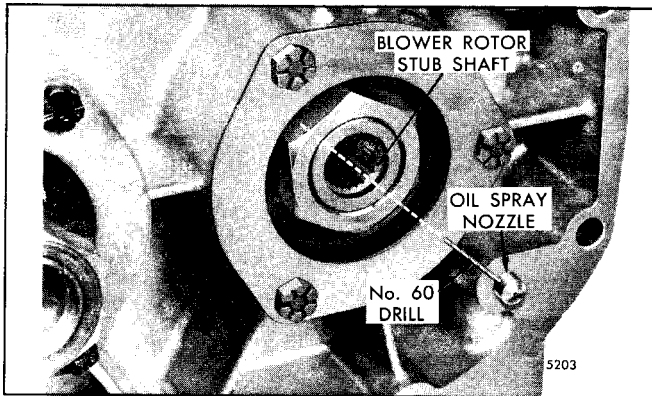

Fig. 11 - Positioning Blower Spray Nozzle (Former)
1. Position the spray nozzle so that when the shank end of a No. 60 drill is inserted in the hole in the side of the nozzle a sighted line along the drill will pass within 1/8" of the center of the rotor stub shaft (Fig. 11).
- e. Temporarily insert four (4) 3/8"—16 x 2-1/2" bolts with washers through the rear end plate and thread them into the housing. On former 12V blowers, the front end plate of the front blower must have the oil nozzle positioned so the oil flow is directed toward the governor drive (Fig. 11). Tighten the bolts securely.